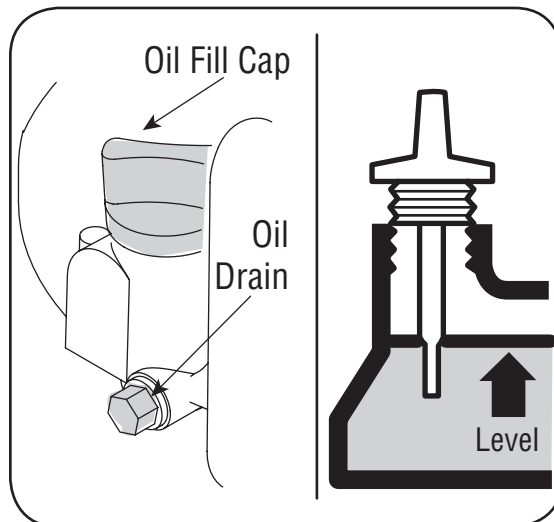

Figure 10-1: Changing the oil.
1. Remove drain plug and allow oil to drain into a suitable container. See Figure 10-1.
3. Refill with the recommended oil (see Operation section) and check the oil level. See Figure 10-1.